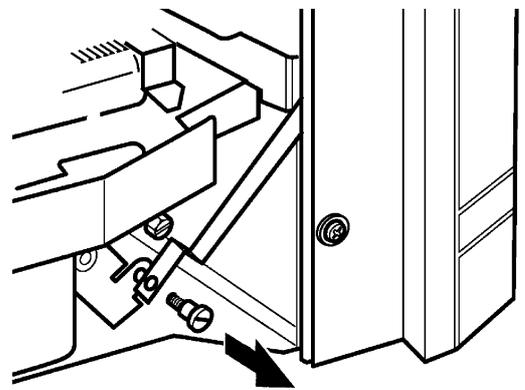

Figure 36. Control linkage disconnection (Fascia may differ from that shown)
2. Detach the control-linking bar from the control pivot bracket by removing the knurled screw, which joins the control linking bar to the control pivot unit (See figure 36).